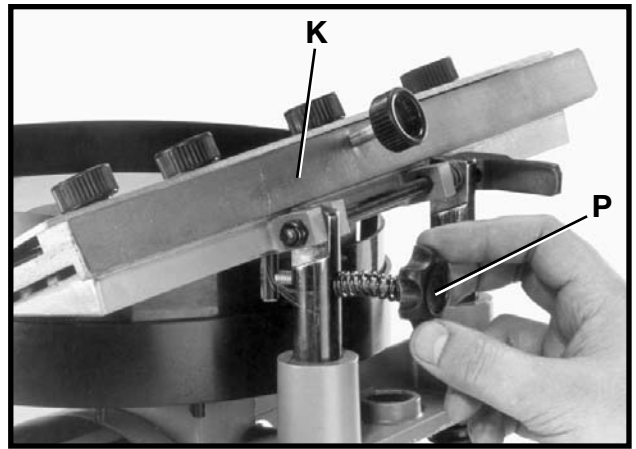

Fig. 45
8. To tilt the sliding tool rest (K) Fig. 45, to conform with the angle of the knife to be sharpened, turn the tool rest tilting knob (P).